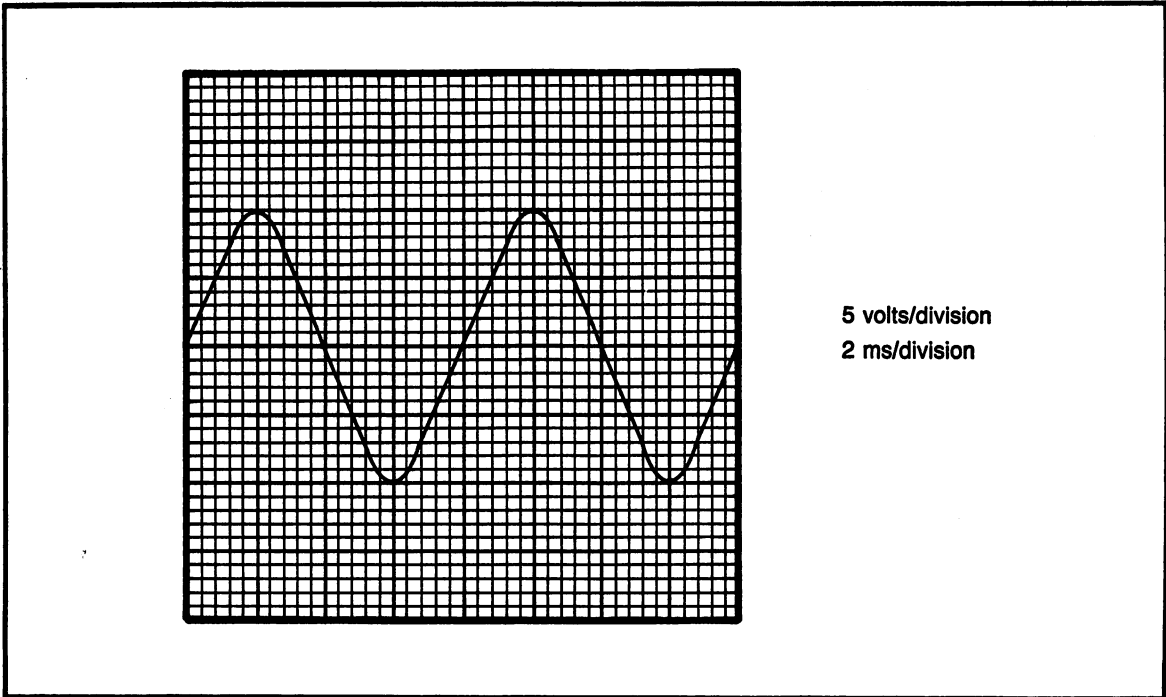

Fig. 11-23. Problem 39: 5 volts/division; 2 ms/division.
- (39) Figure 11-23; a) p-to-p voltage b) frequency